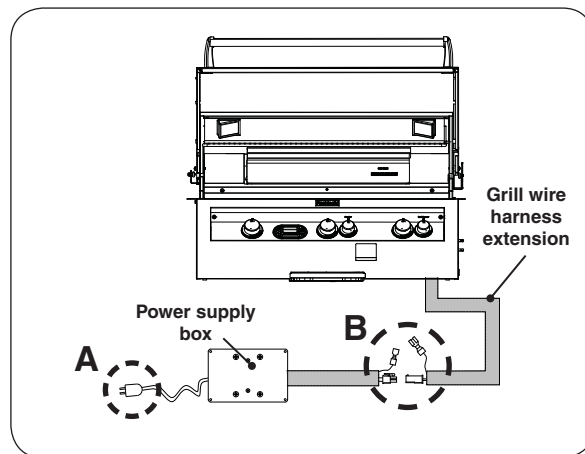

Fig. 17-2 Disconnect grill connections
1. Locate the power supply box inside of the island enclosure and disconnect the power cord (See Fig. 17-2, **A**).
2. Disconnect the grill wire harness extension connectors from the power supply connectors. See Fig. 17-2, (**B**)